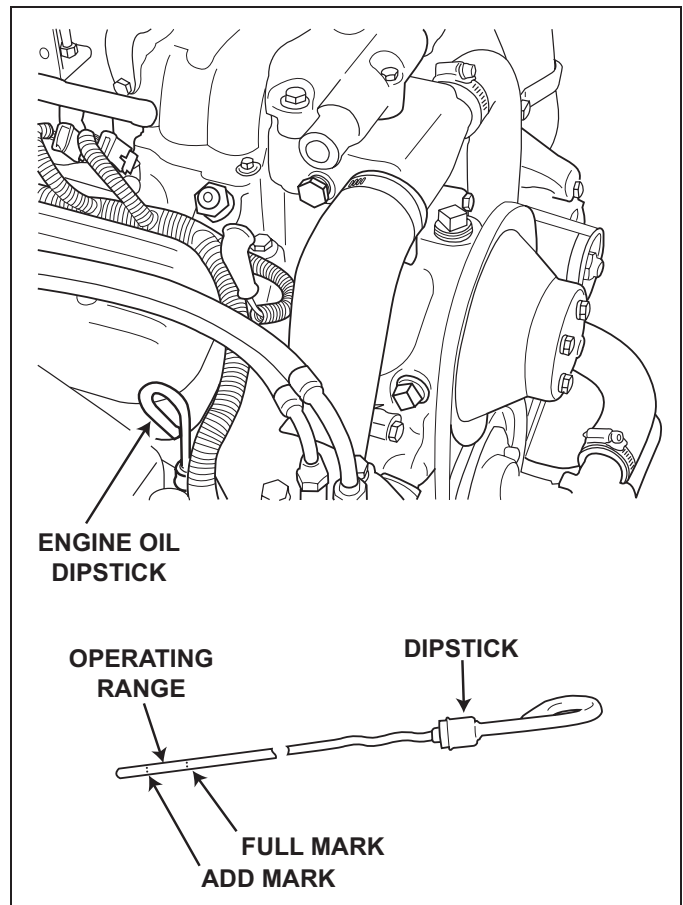

Figure 11-1 Engine Oil Dipstick (Typical)
3. Remove the dipstick and observe the oil level. The oil level must be between the "FULL" and "ADD" marks. If the oil level is below the "ADD" mark, add specified oil to bring the level up to, but not over, the "FULL" mark on the dipstick. If the oil level is above the "FULL" mark on the dipstick, remove the excess oil. (Figure 11-1)